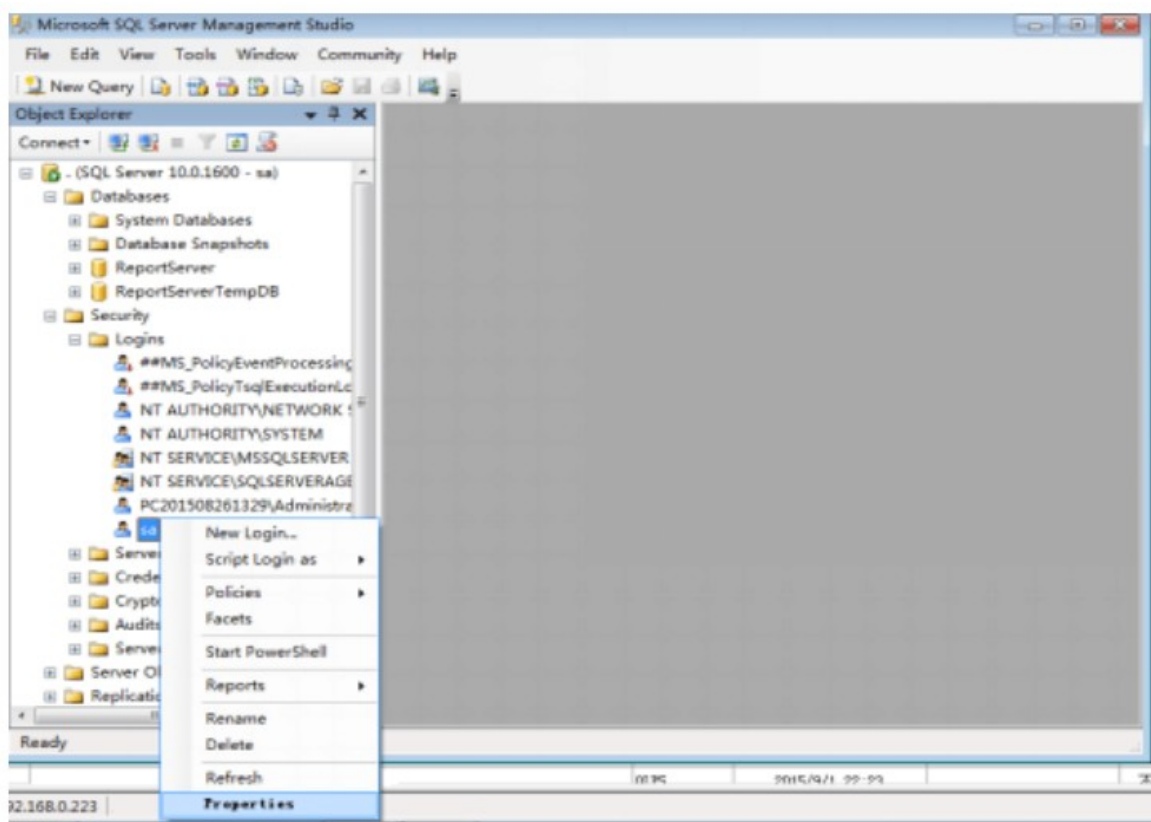

Fig.1.4 Microsoft SSMS
**Step Four:** Unfold “Security”-> “Logins”-> “sa”, then right click “sa” and choose “Properties” (see Fig. 1.4).